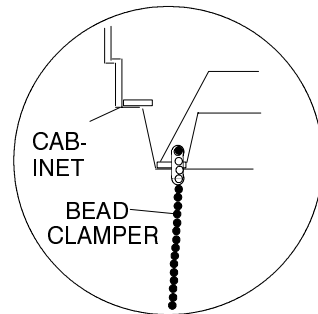
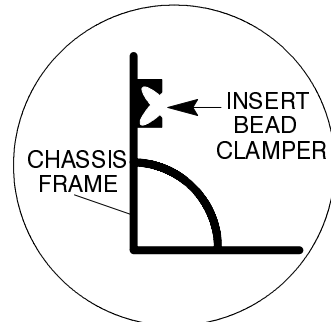

Fig.7.
Fig.8.
3. Insert the bead clammer located in the bottom left hand corner of the cabinet (Fig.7.) into the chassis frame shown in Fig.8.